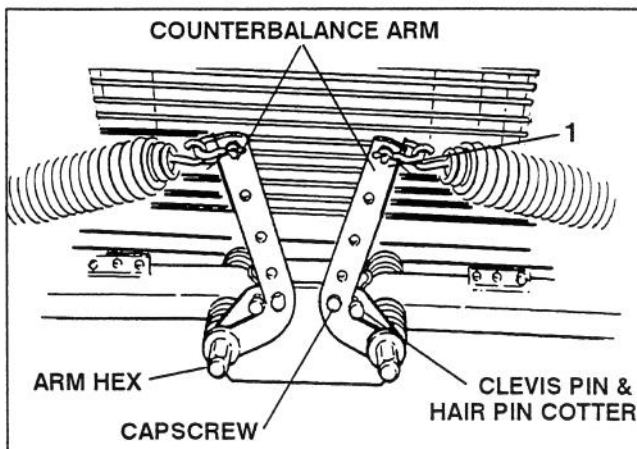

Figure 1
1. Remove capscrews securing counterbalance arms (Fig. 1). Clevis pin and hairpin cotter retains arm in position. Insert a 3/4" socket with long extension bar onto counterbalance arm pivot hex (Fig. 1). Remove hairpin cotter and clevis pin once spring pressure is removed from the arm. Rotate counterbalance arm down into relaxed position. Do this on (3) cutting units. Refer to Operator's Manual for further safety instructions.
2. Pivot counterbalance arm back and install clevis pin in the top hole of the arm (Fig. 1). Reinstall hairpin cotter.